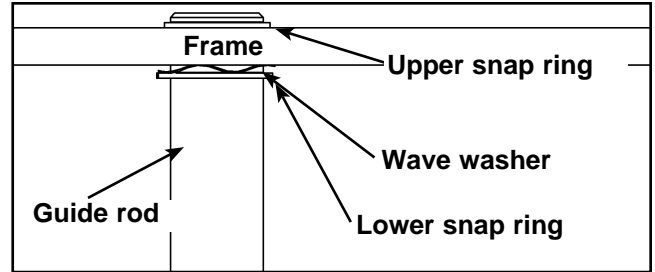

Figure 6
- C. Using an external snap ring pliers, remove the upper snap ring from one of the guide rods and carefully lower the guide rod. See Figure 6.